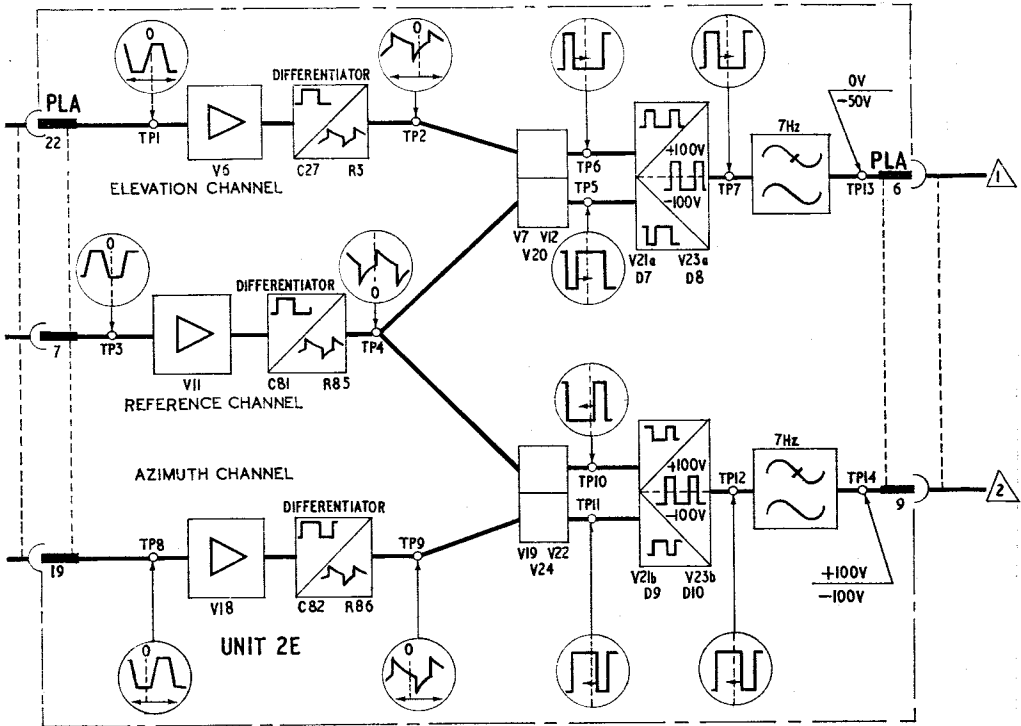

Fig 12 Block diagram (functional)
b. Show how the fault diagnosis task can best be carried out. This will usually be done by showing on the diagram the positions of all test points, together with enough spatial information to enable these to be located easily on the hardware. An indication will normally be given of the test parameters to be expected at these test points, the most common method being to use "inset" waveforms (see fig. 12). To enable the main flow path to be traced easily the diagram usually includes routing information such as the pin numbers of all plugs/sockets in the main flow paths.